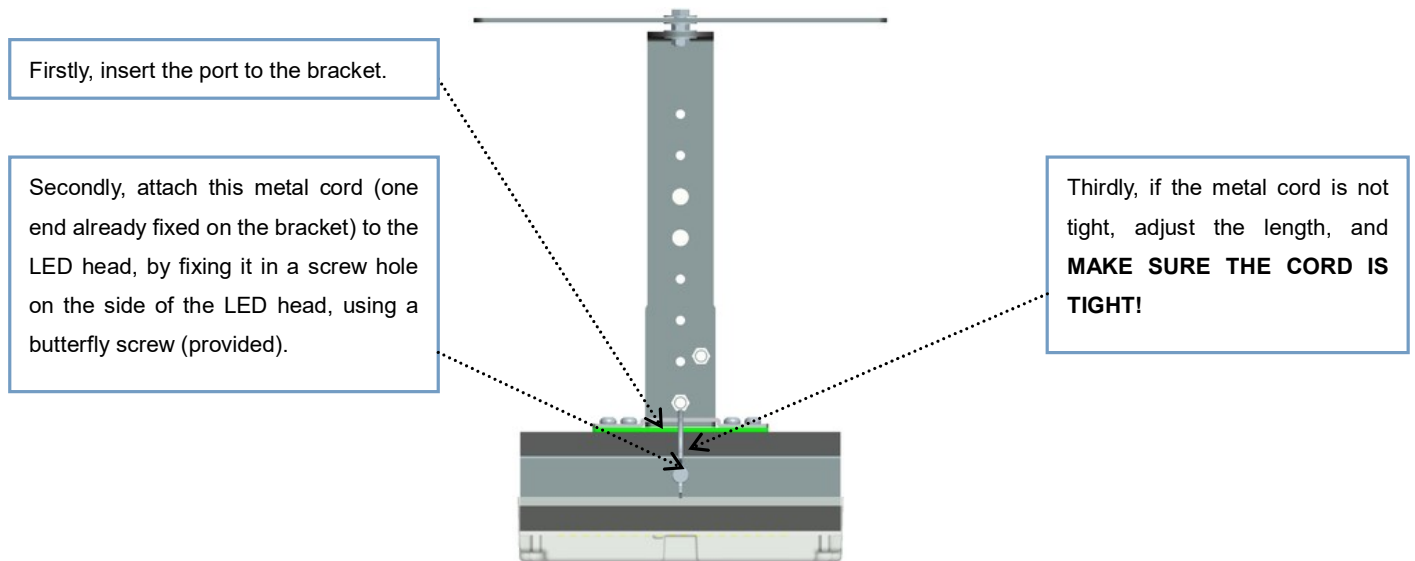

FIG. 12
**If the metal cord is not tight, adjust the length of it and make sure it's tight, such that the LED head is firmly locked with the bracket.** The butterfly screw can be used without tool (see FIG 12).